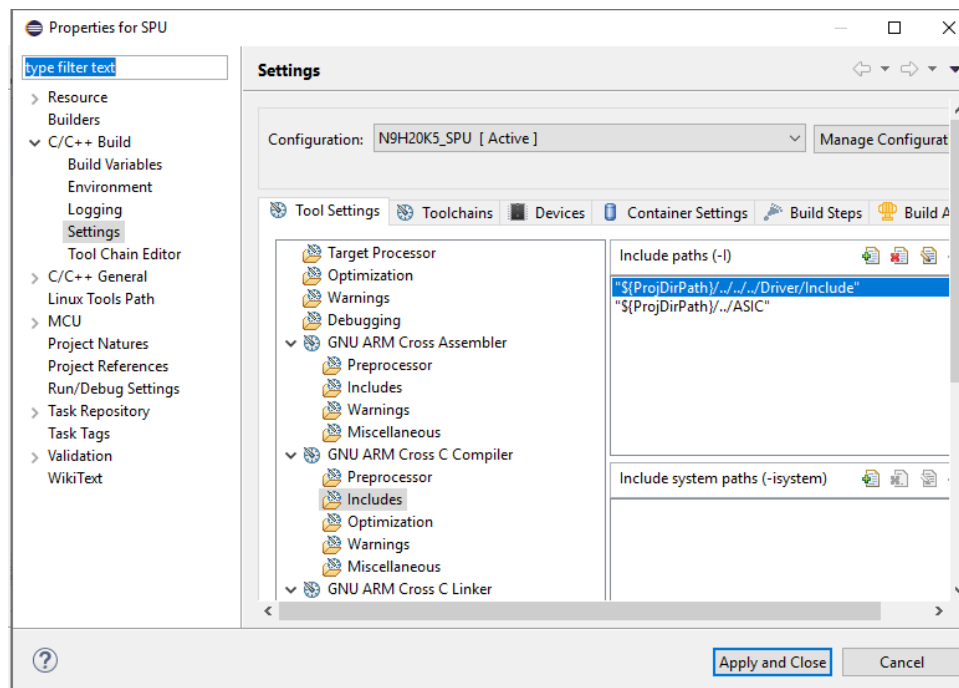

Figure 2-11 Include Path Settings
- Figure 2-11 shows how to set the Include path in **GNU ARM Cross C** and **Assembler Compiler** if necessary.